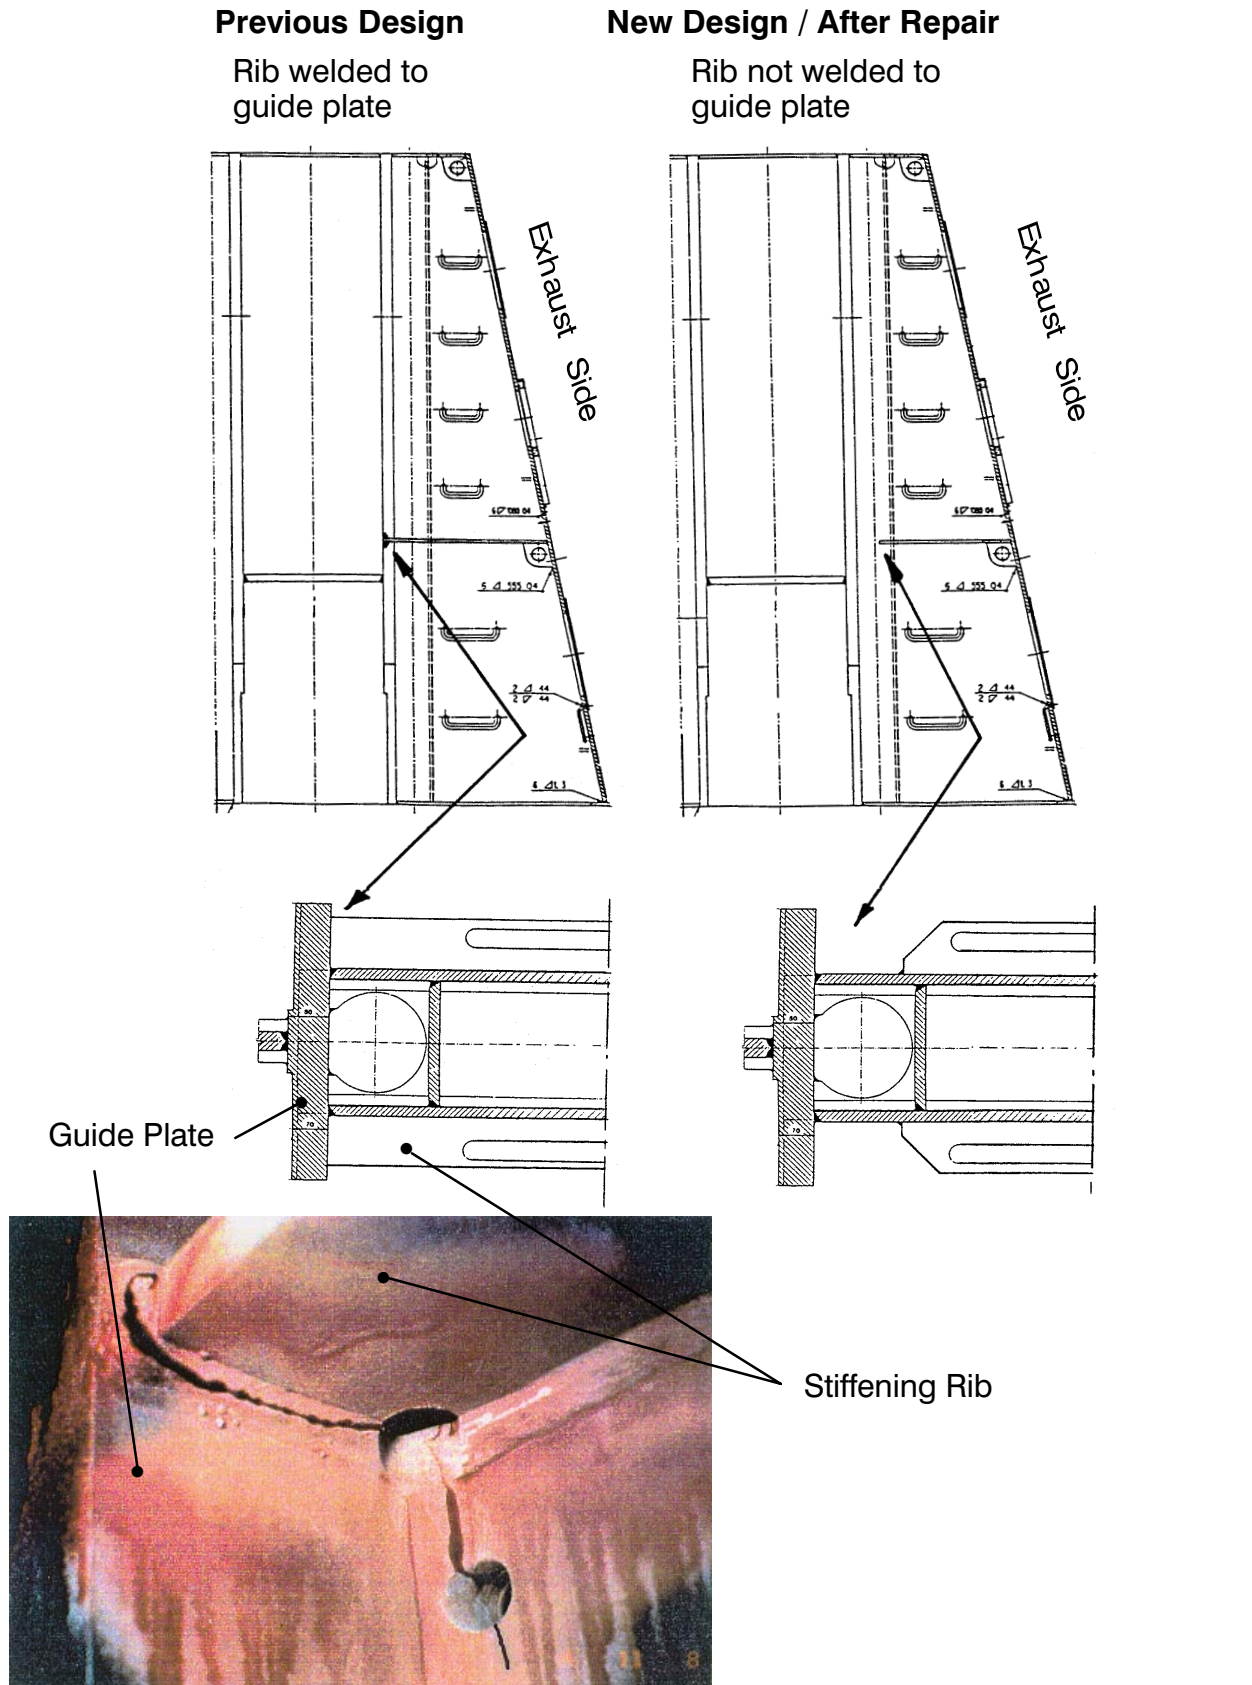

Fig. 2 Crack in the Welding Seam between Stiffening Rib and Guide Plate
- In the welding seam between stiffening rib and guide plate (rail) [RTA 62, RTA 72, RTA 84M] Fig. 2
5.5. Crack at the Stiffening Rib and Guide Plate (Fig. 2 on page 4)